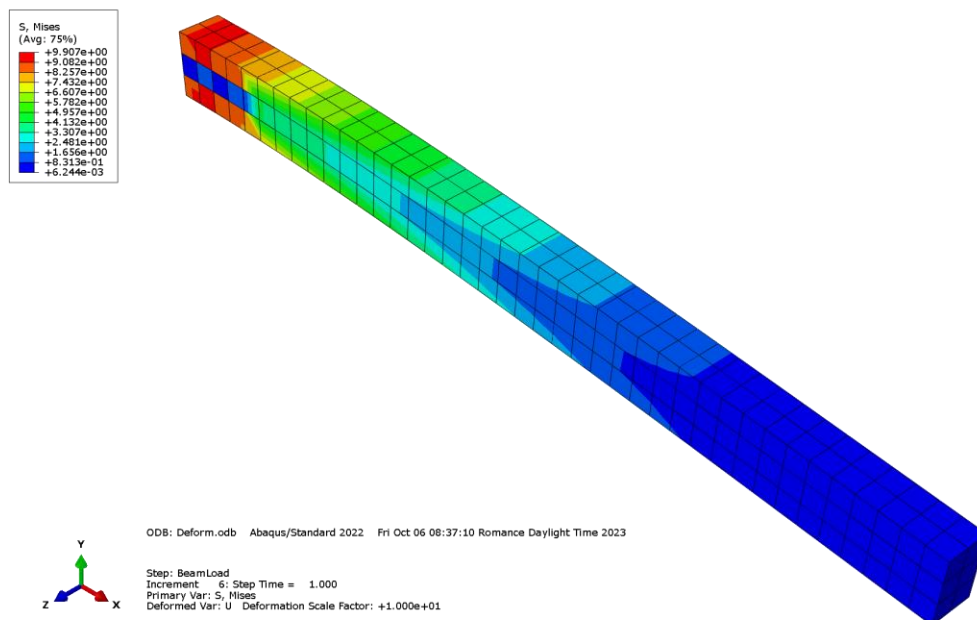
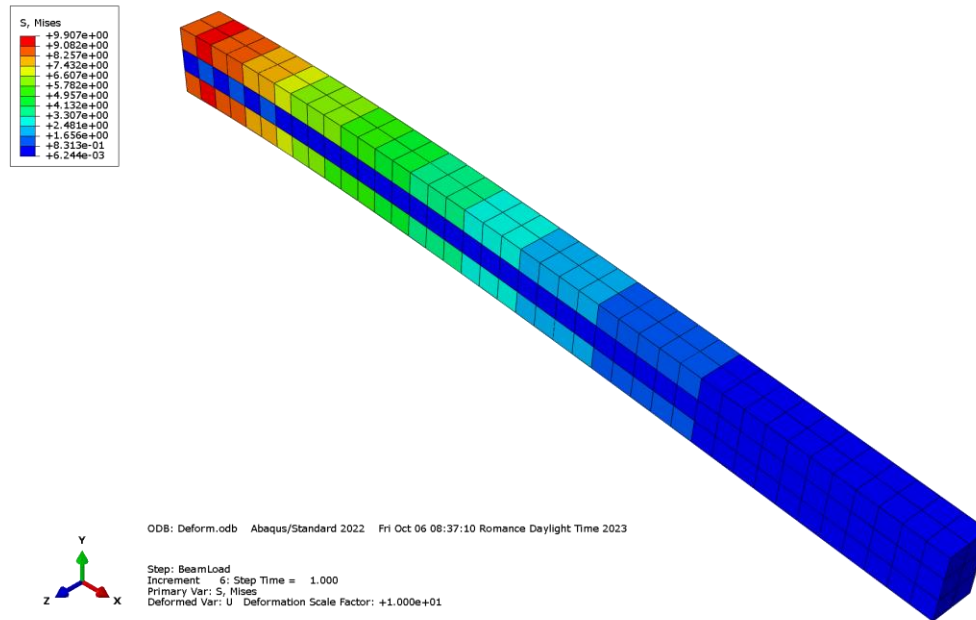

Figure 4: Displacement scale factor: 10.
Figure 5.
- 3) Figure 4 shows a contour plot of the averaged (75%) von Mises stress on the deformed shape.
- 4) Figure 5 shows a contour plot of the unaveraged von Mises stress on the deformed shape.
We observe very similar magnitudes of stress in Figs. 4 and 5, however, the visualization is interpolated in Fig. 4 while the stresses are shown element wise in Fig. 5.
We will now increase the complexity of the model and introduce the two holes in the beam. The dimensions and position of the holes are given in Figure 4. The beam is still embedded in the concrete wall at one end and supported by the steel rod at the hole at the opposite end of the beam.